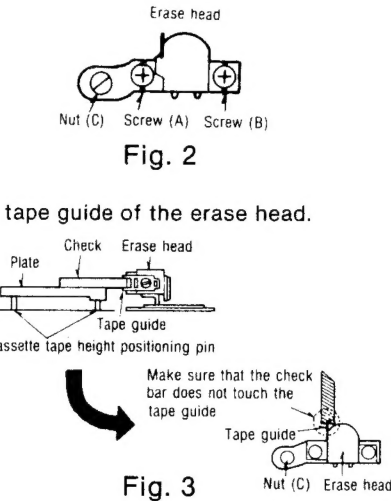

Fig. 3
<ul style="list-style-type: none"> • Remove 2 screws (F) (see fig. 3).
Procedure 1 → 4 → 7 → 8	<ul style="list-style-type: none"> • Remove one screw (P) (see fig. 3). • Remove one latch (Q) (see fig. 2 and 4). • Open the lid of connectors [A]~[N], [P] and [V], and extract the flat cable (see fig. 3). • Remove the connectors [Q], [T] and [U] (see fig. 3).